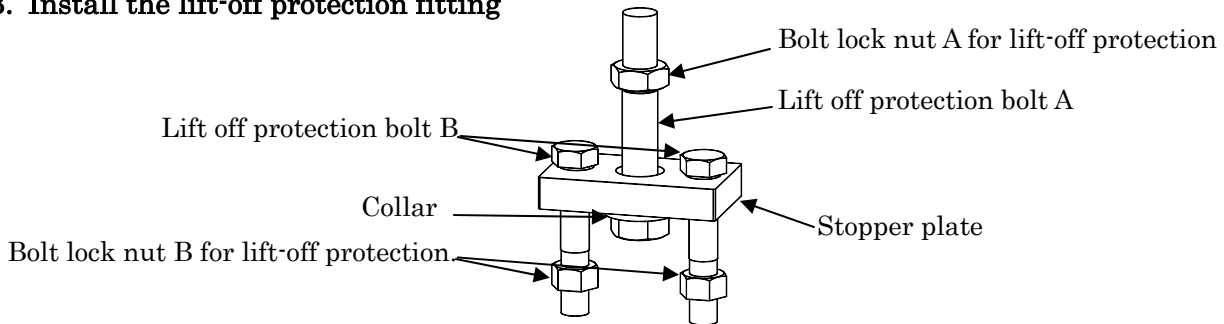

Fig.5
- ① Install the Lift-off protection metals attached to the same condition as shown in Fig.5.